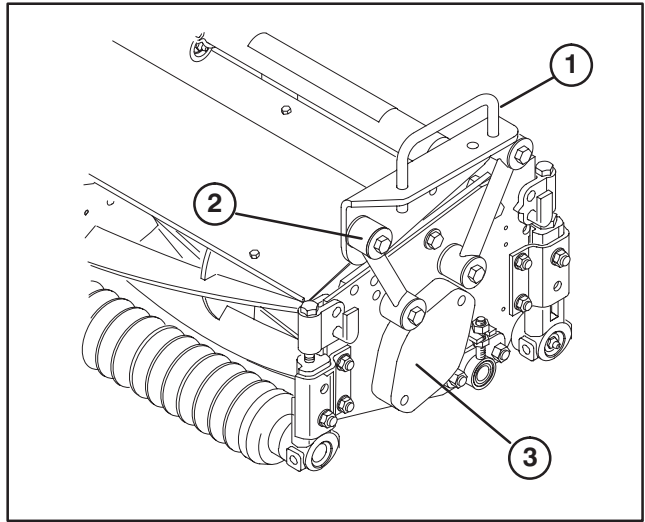
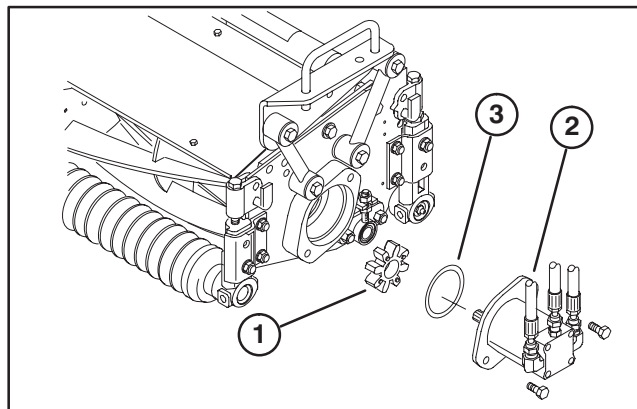

Figure 5
Figure 9
MOUNT CARRIER FRAMES TO CUTTING UNITS (Fig. 5)
3. Secure each mounting link to carrier frame with a 3/8-16 x 2-1/4" lg capscrew, (2) flatwashers and a locknut, as shown in figure 5. Position a washer on each side of link when mounting. Torque to 31 ft-lb.
MOUNT CUTTING UNIT DRIVE MOTORS (Fig. 9)
2. Remove bearing housing cover (Fig. 5) from inside end of right hand cutting unit. Install cover and gasket (supplied with cutting unit) on outside end. Locate spider coupling (Fig. 9) shipped in bearing housing.